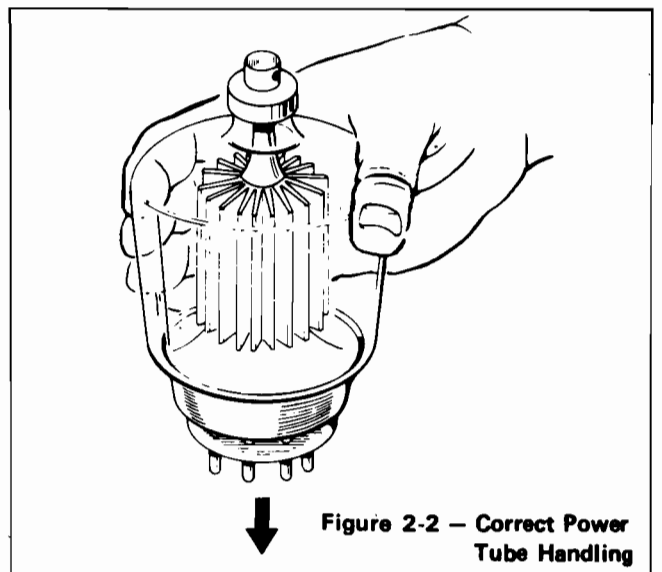

Figure 2-2 — Correct Power
5. Take the tubes out of their case (Refer to Fig. 2-2). In handling, be sure to hold them by the glass envelope, not the plate cap.